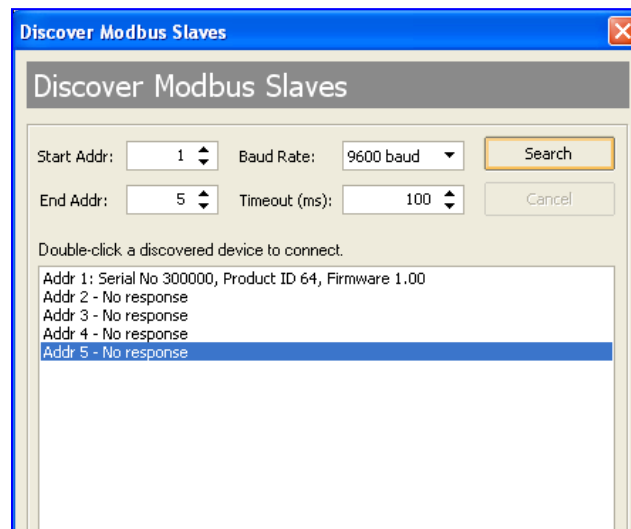

Figure 4.8—Automatic detection of all connected devices
3. Enter a range of addresses you want to search (Figure 4.8).